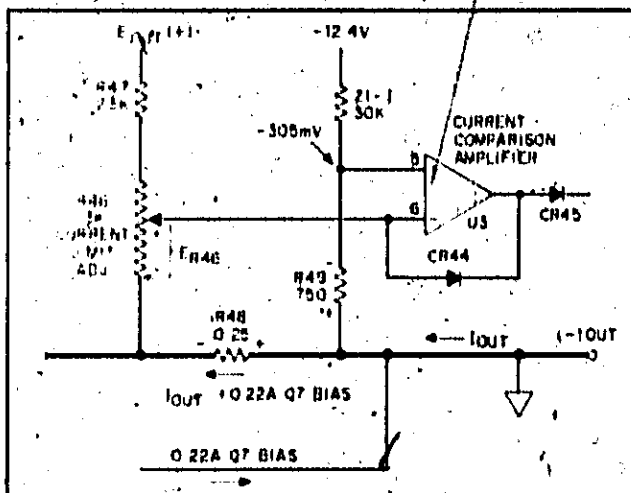

Figure 4-1. Foldback Current Limit Circuit in 6V Supply
4-27 **Current Foldback Circuit:** (For this discussion refer to the Figure 7-1 schematic and to Figure 4-1.) The differential input signal to the current comparison amplifier is the algebraic sum of three circuit voltages:
2. The voltage across the lower part of $R46$ (see Figure 4-1). E_{R46} is proportional to the regulator output voltage and equals 440mV when the supply output is 6 volts.